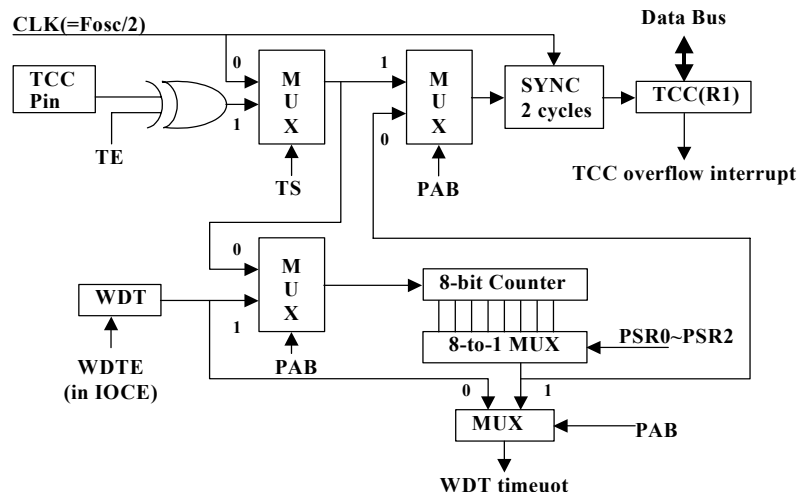

Fig. 6 TCC and WDT Block Diagram
An 8-bit counter is available as prescaler for the TCC or WDT. The prescaler is available for either the TCC or WDT only at any given time, and the PAB bit of the CONT register is used to determine the prescaler assignment. The PSR0~PSR2 bits determine the ratio. The prescaler is cleared each time the instruction is written to TCC under TCC mode. The WDT and prescaler, when assigned to WDT mode, are cleared by the "WDTC" or "SLEP" instructions. Fig. 6 depicts the circuit diagram of TCC/WDT.
- R1 (TCC) is an 8-bit timer/counter. The clock source of TCC can be internal or external clock input (edge selectable from TCC pin). If TCC signal source is from internal clock, TCC will increase by 1 at every instruction cycle (without prescaler). Referring to Fig. 6, $CLK = F_{osc}/2$ or $CLK = F_{osc}/4$ selection is determined by the CODE Option bit CLK status. $CLK = F_{osc}/2$ is used if CLK bit is "0", and $CLK = F_{osc}/4$ is used if CLK bit is "1". If TCC signal source comes from external clock input, TCC is increased by 1 at every falling edge or rising edge of TCC pin.